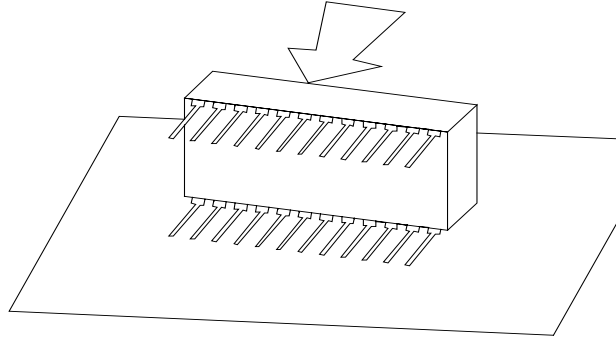

Figure 19. Aligning the chip pins.
7. Inspect the new EPROM HW Config. and make sure the pins are aligned. Place the EPROM over the S3 socket and make sure the pins are spread correctly to be easily seated. If it is necessary to bend the pins, place the chip on its side on a flat surface. Gently press the top edge of the chip to bend the pins under the chip (**Figure 19**).